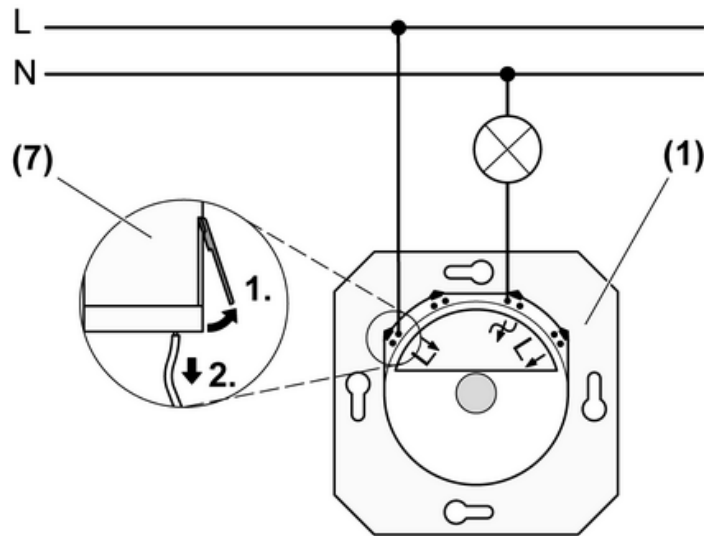

Figure 2: Connection diagram
- (1) Dimmer
- (7) Pull the connecting cable out of the push terminal.
- Connect the dimmer according to the connection diagram (Figure 2).